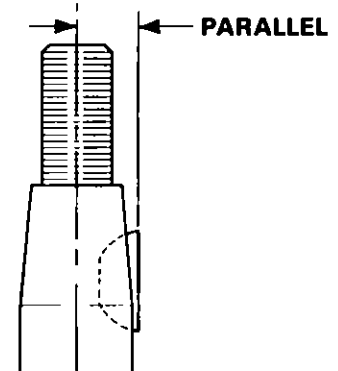

Figure 14. Position of Flywheel Key Prior to Assembly.
- 1 If flywheel key has been removed, reassemble key to crankshaft with outer edge of key parallel to center line of crankshaft, Figure 14